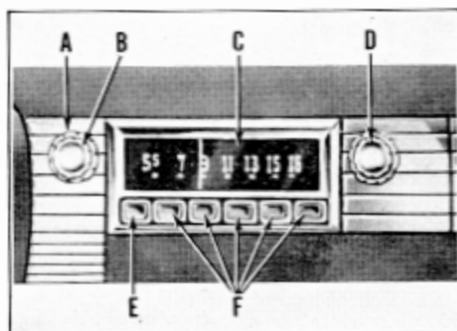

Figure 39
**OFF-ON AND VOLUME CONTROL** — To turn the receiver on, press in any of the push buttons except the one at the extreme left. This will automatically bring in the station for which the button has been set. To regulate the volume, turn volume control knob (B Figure 39) clockwise or counter-clockwise. To turn off the receiver, press in the button (E) at the extreme left.
**-tone control** — The tone control ring (A) is located behind the volume control knob. Rotating this ring clockwise will emphasize the high notes while turning it to the left will bring out the bass notes.
**MANUAL TUNING** — After the receiver has been turned on by pressing in one of the five push buttons, it may be tuned manually to other stations by turning the manual tuning knob (D). This can be done at any time without disturbing the automatic setting.
**AUTOMATIC TUNING** — There are five automatic tuning positions, one for each of the five buttons (F) which may be adjusted to the stations desired. If the positions have not been adjusted previously, your Hudson Dealer can do this for you. Details will also be found in the Radio Owner Manual in the glove box.